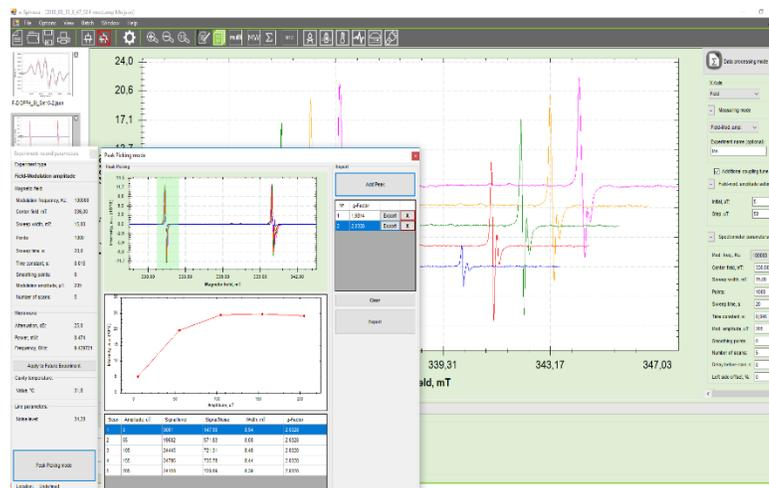

Figure 6.18 – Field- Modulation amplitude experiment
- Press the button  to start the scanning process with the above requirements (Fig.6.18).